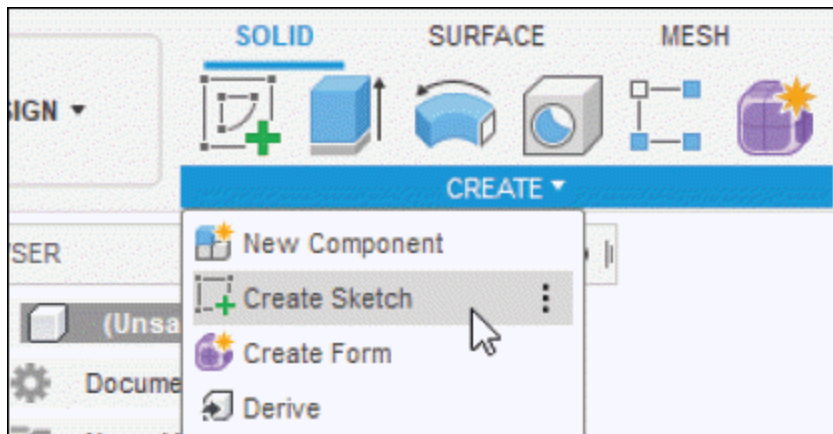
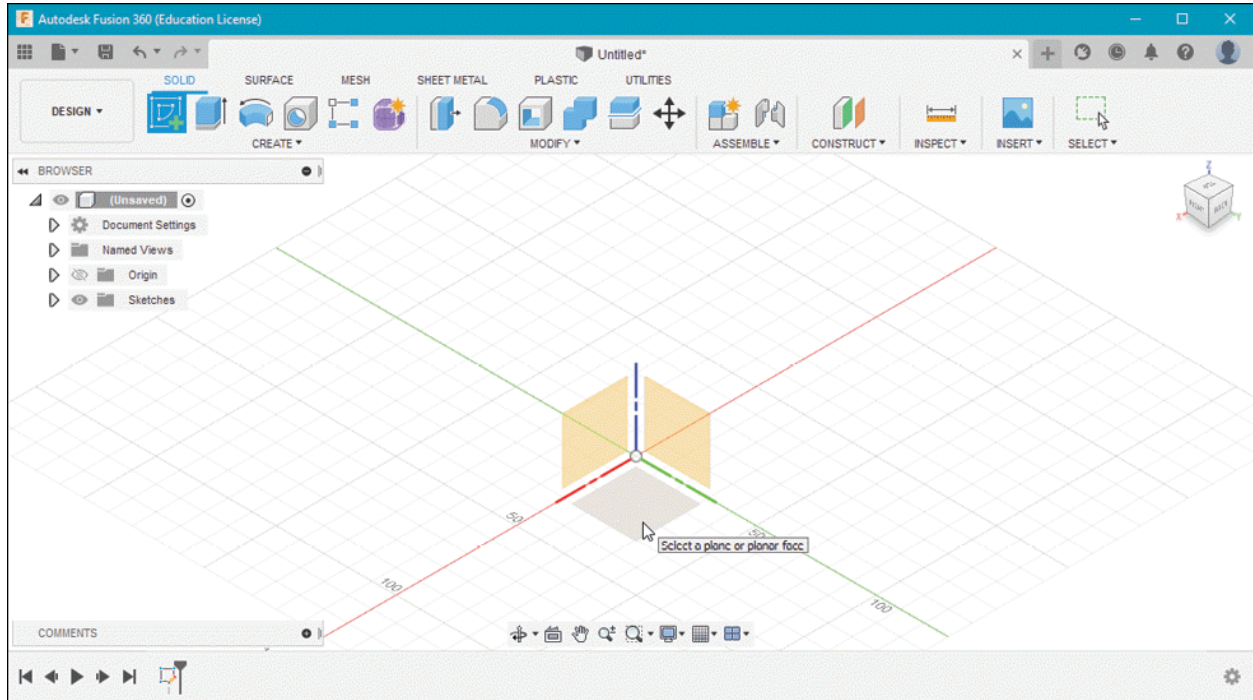

Figure-1. Create Sketch tool
Figure-2. Select sketch plane
- To start a new sketch, click on the **Create Sketch** tool from **CREATE** drop-down in **SOLID** tab of **Toolbar**; refer to Figure-1. The three primary planes will be displayed on canvas screen; refer to Figure-2.